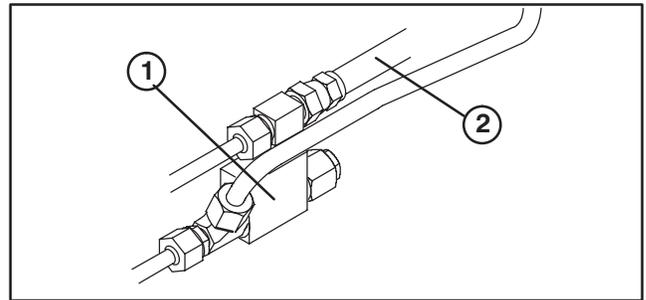

Figure 16
29. Disconnect hydraulic hose from tee fitting on power steering relief valve (Fig. 16).